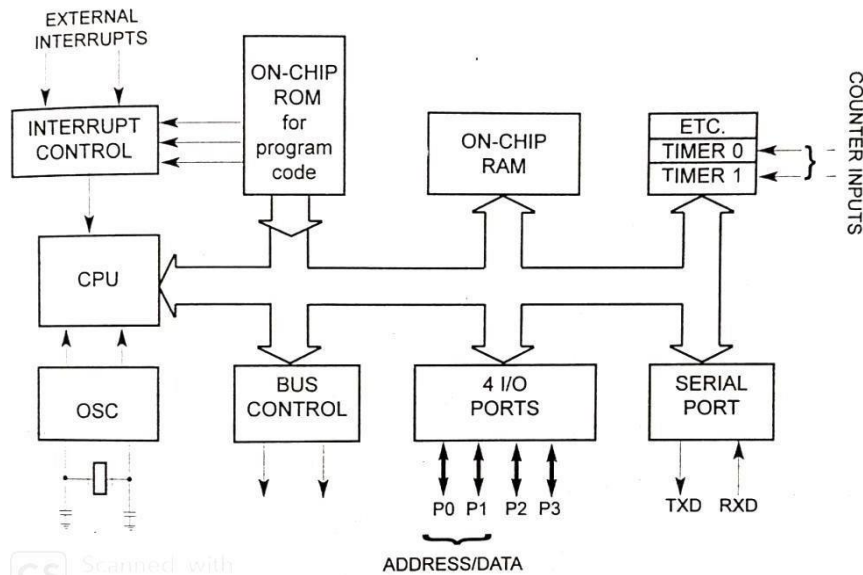
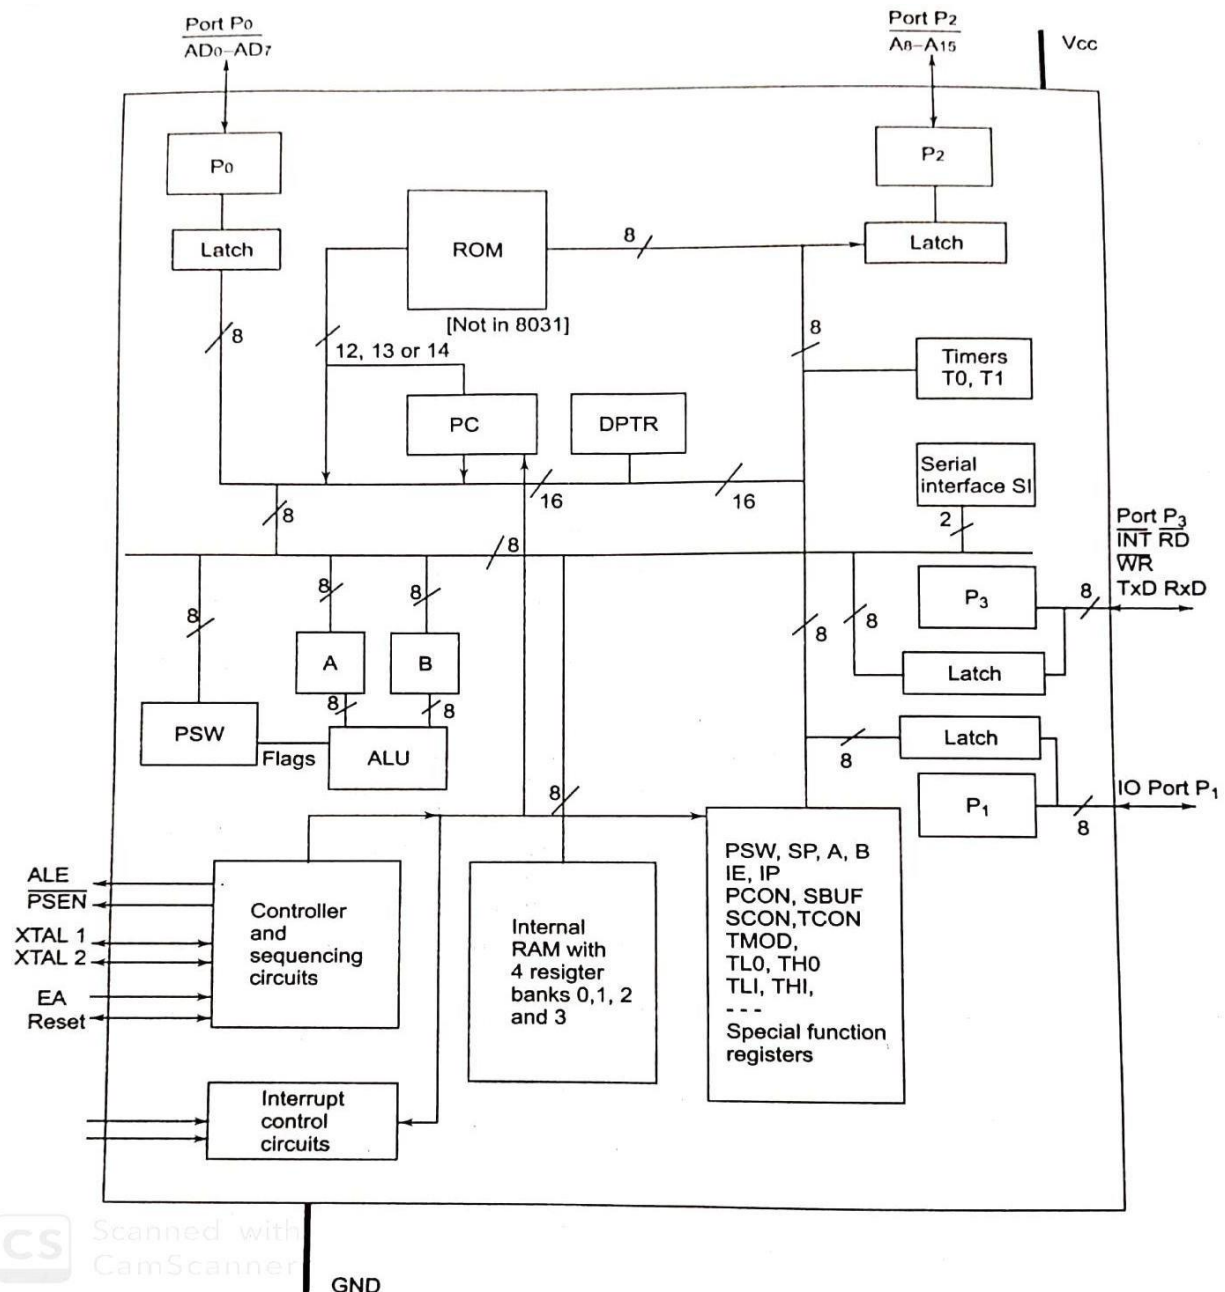

Fig. 4.1 Simplified architecture of 8051
Fig.4.2 Overview (Block diagram) of 8051
Fig 4.1 shows a simplified architecture for the internal Hardware. Fig 4.2 shows an overview of the internal hardware architecture of the 8051/8031 microcontrollers.
The MCU has, besides the CPU, ROM, Interrupt control circuit, internal timing devices (timers T0, T1), serial interface (SI), RAM and special function registers (SFRs). It has four ports P0, P1, P2 and P3 as shown in Fig. 4.1. The overview block diagram of 8051 is depicted in Fig.4.2.